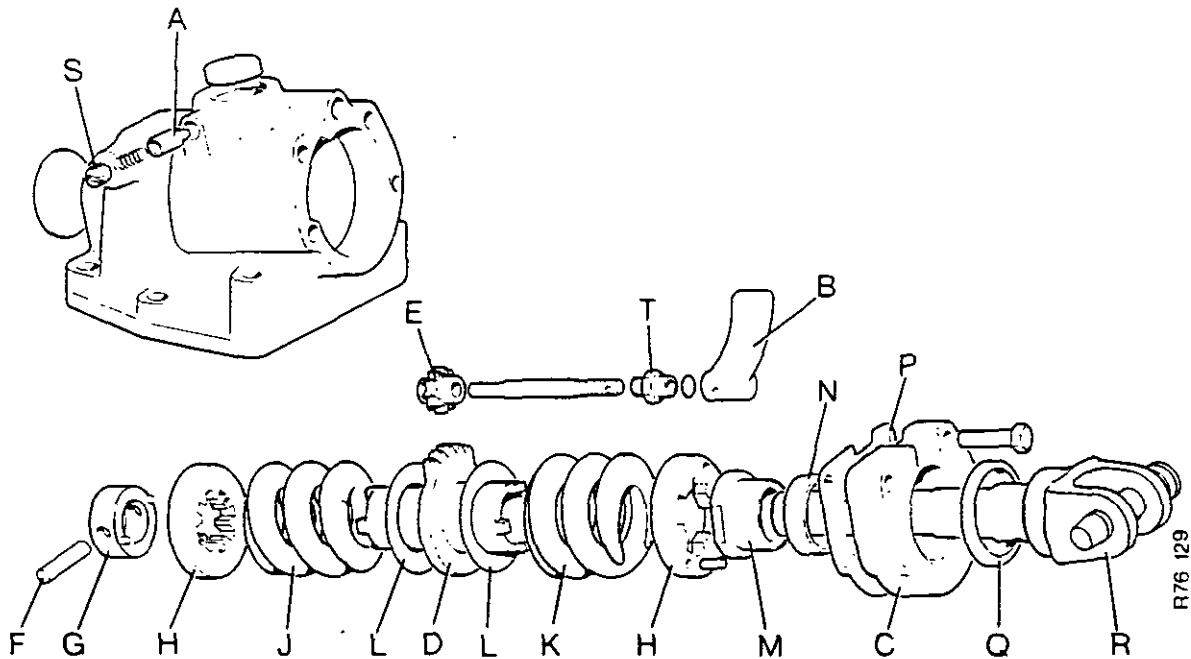

FIGURE 125. DISASSEMBLY OF THE SELECTIVE SENSING UNIT
5. To disassemble the shaft assembly remove the pin 'F' from the collar 'G' (see Figure 125). Remove the collar, thrust washers, shims, springs and carrier from the shaft. Store the parts together. Do not destroy the shims.